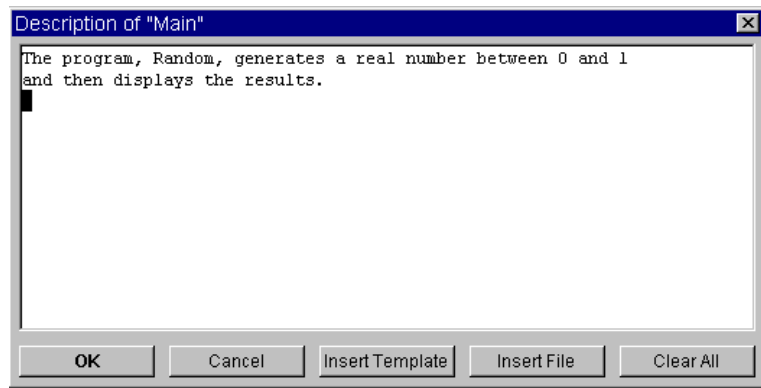

Figure 2-35. The Description Dialog Box
2. In the `Main` object menu, click `Description`. Type text in the dialog box as shown in Figure 2-35: Click `OK` when you are done.